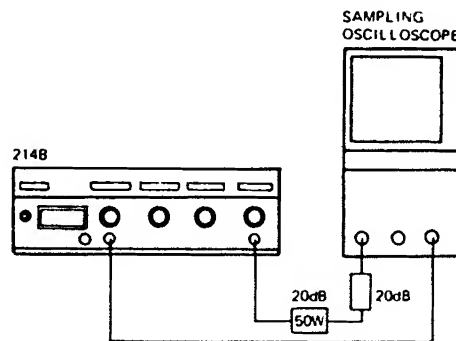

Figure 5-5
1. Connect equipment as shown in Figure 5-5 and set 214B controls as follows: